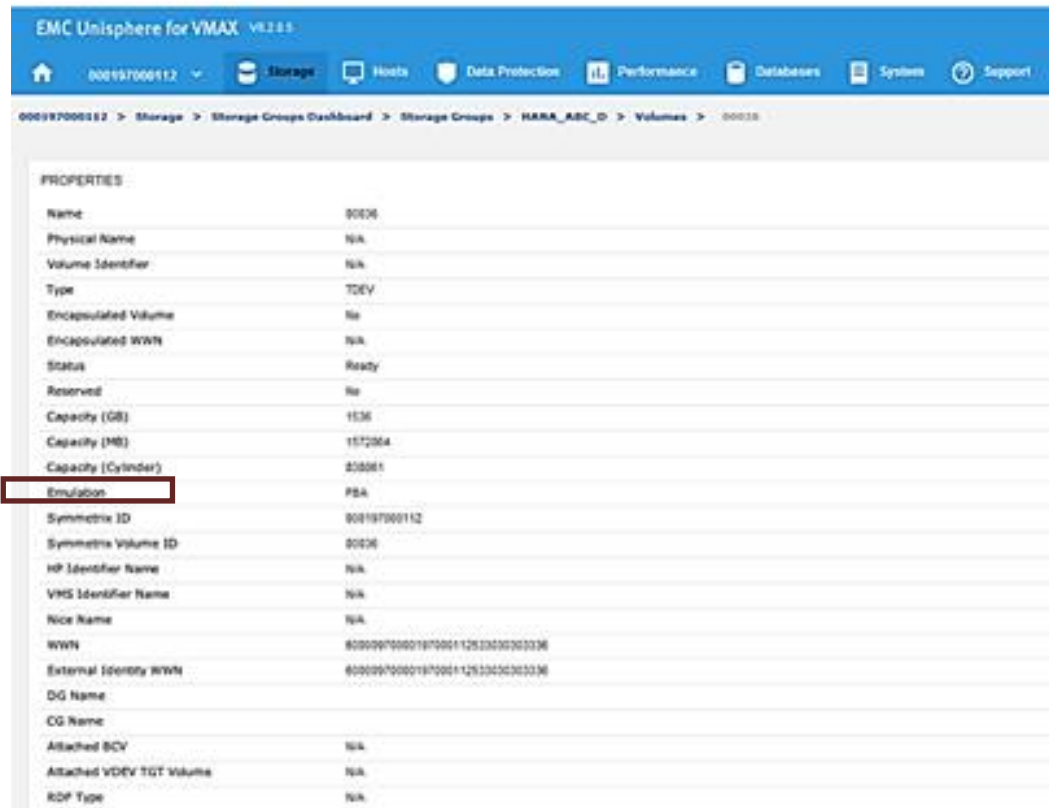

Figure 10. Data volumes list
6. Click **Volumes – 3** in the **RELATED OBJECTS** area to view the list of data volumes. Figure 10 shows an example.